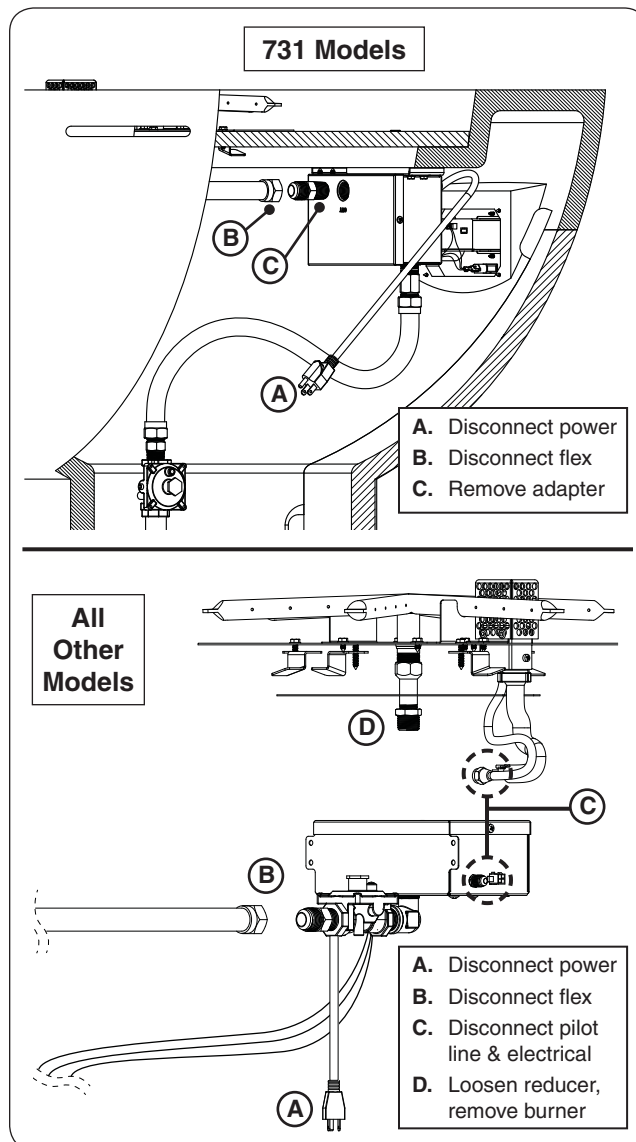

Fig. 45-3 Gain access to valve box
2. Gain access to the valve box from the unit as shown in Fig. 45-3.
2. Remove the burner and gain access to the valve box as shown in Fig. 45-3.